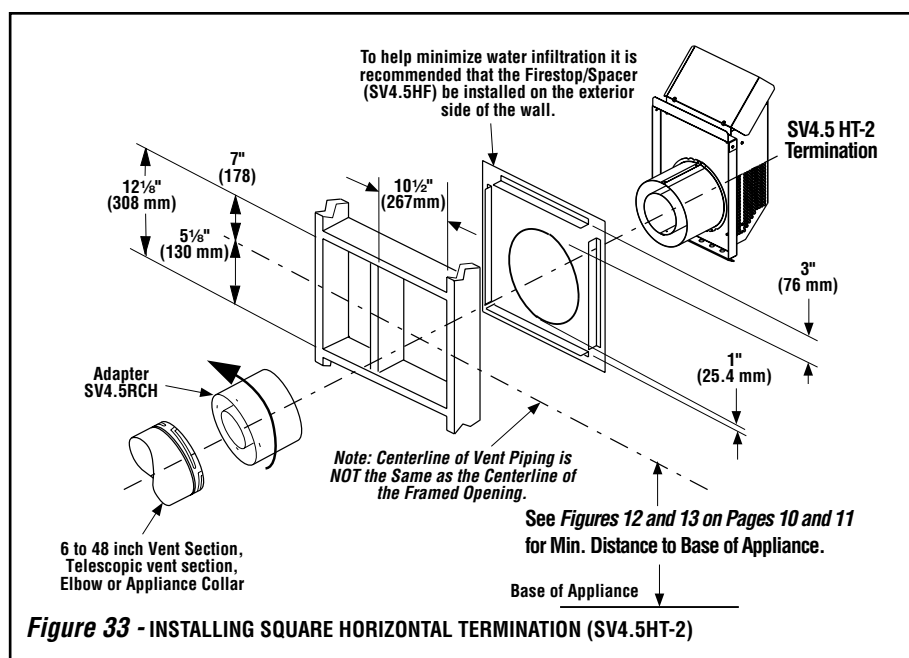

Figure 33 - INSTALLING SQUARE HORIZONTAL TERMINATION (SV4.5HT-2)
K. Attach termination adapter - Attach the adapter (SV4.5RCH - provided with the termination) to the vent section or telescoping vent section), elbow or appliance collar as shown in **Figures 33 and 34** in the same manner as any SV4.5 vent component (refer to **Step E**).
L. Install Firestop / Spacer at exterior wall - When using the **square** termination, install SV4.5HF (Secure Vent), SF4.5HF (Secure Flex) Firestop/Spacer over the opening at the exterior side of the framing, long side up, with the 3 inch spacer clearance at the top as shown in **Figure 33**, and nail into place.